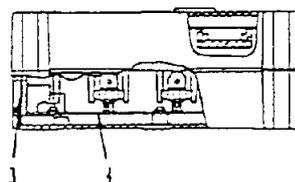

Fig. 12
- (6) Then, disconnect all the engine controller connectors (refer to Fig. 11 and Fig. 12).
When doing this, carefully check the connector numbers of the harnesses and their connection points (refer to Fig. 12).